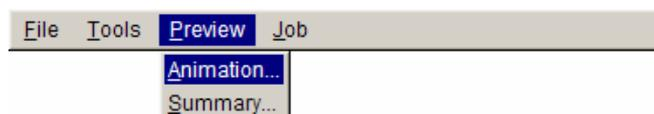

Figure 5.75 Animation menu
1. Select **Preview**→**Animation...** in the menu bar. See Figure 5.75.